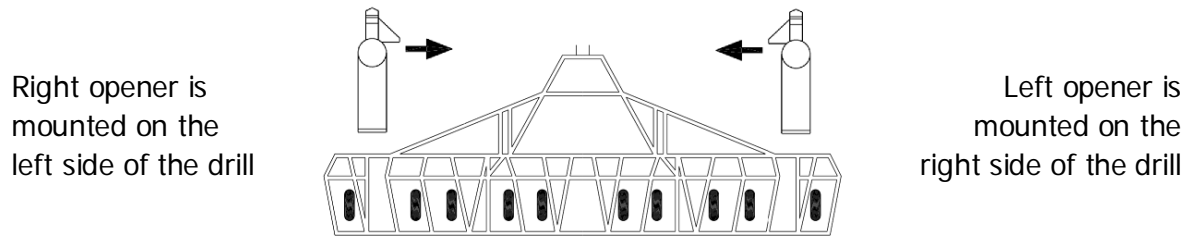

FIGURE 4: OPENER ORIENTATION
Mounting your openers on the correct side of the drill will reduce the chances of plugging while turning with the drill in the ground. A "left" opener will have the wing pointed to the left when viewed from the back. In Figure 4, the arrows represent the orientation of the wings.
- 3) Carbide protected wings for side band and spread openers can be purchased through Atom-Jet to weld on to replace broken and worn-out wings. Remember the designation of left and right wings based on the side of the drill shown in Figure 4.